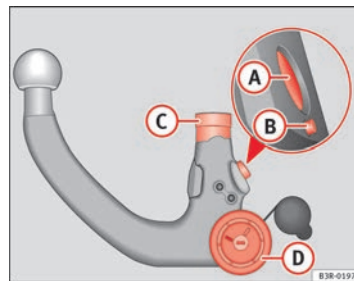

Fig. 153 Removable
- Check the locking pin **(A)**, release pin **(B)**, shaft section **(C)** and knob **(D)** ⇒ **page 202, fig. 153** on the ball joint to make sure they are clean and undamaged.